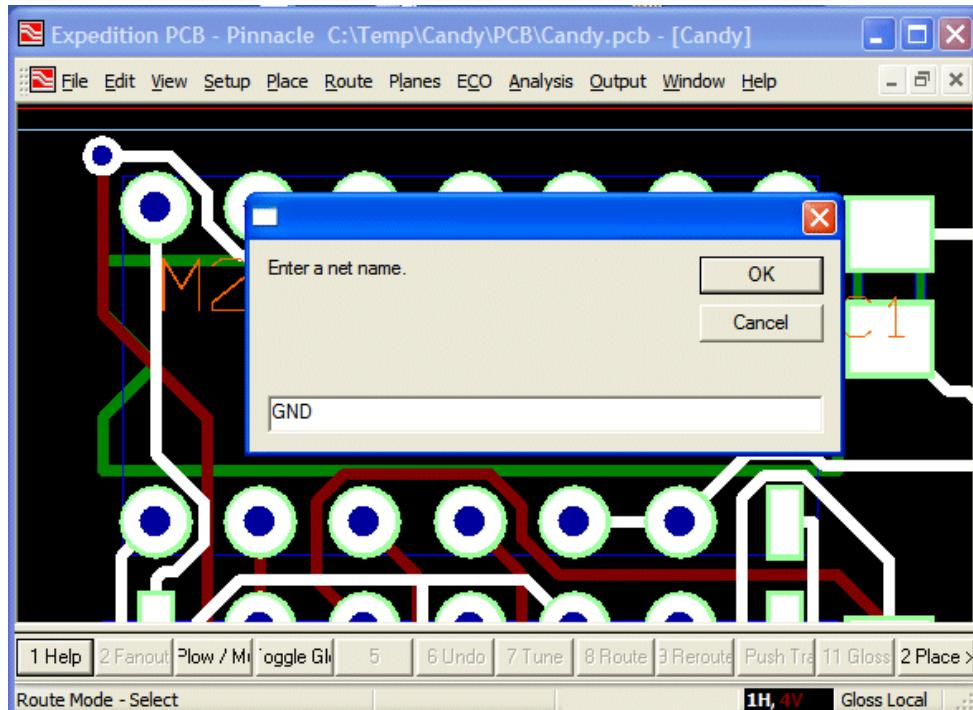

Figure 12-5. Query at start of Task #2 in the TraversePins.vbs script.
- 4) Click the **OK** button to dismiss this dialog and proceed to **Task #2**. Observe the *InputBox()* used to request the name of a net. Enter the name "GND" as illustrated in Figure 12-5.